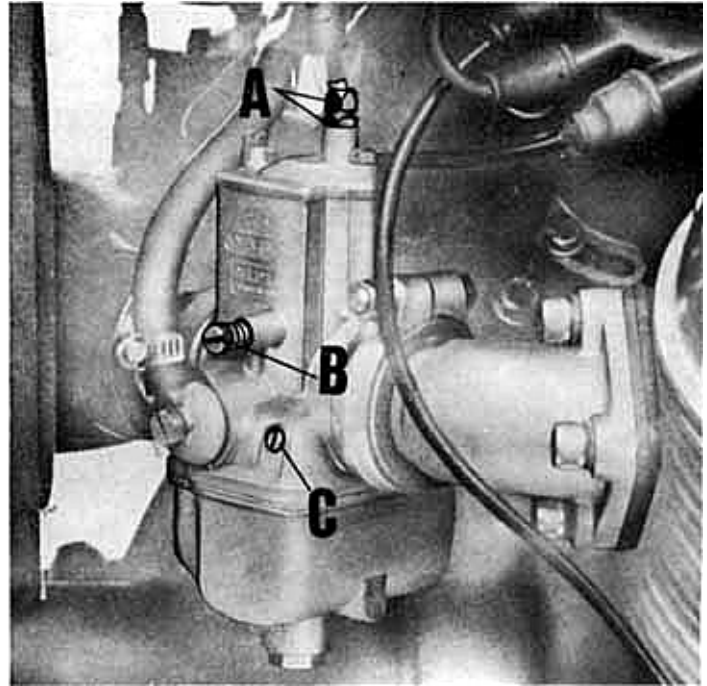

Fig. 17
2. Check synchronization of both gas valves with the filter box and the Inlet sleeve disconnected. Turn the throttle grip keeping at the same time your fingers on the carburetor slides to feel if both valves open by the same amount and simultaneously. Should one valve open before the other, this can be corrected by setting screw «A» (fig. 17) in the position where by turning the throttle both valves open simultaneously.
3. Adjust the idling speed by acting on screw «C» in (fig. 17). Screwing this in reduces the fuel flow and vicaversa increase it. To adjust, tighten and then turn screw out 1 1/2 to 2 turns for the L/H carburetor and 2 to 2 1/2 turns for the R/H carburetor.
With the engine running at about 1000-1200 r.p.m., disconnect one of the plug leads and turn screw «C» (fig. 17) of the opposite carburetor in or out to the position which will give the best idling speed i.e. when the revs are slightly increasing.
4. Disconnect the R/H cylinder plug lead and after starting the engine, ensure that the engine stops after firing 4 or 5 times. If it dies out sooner or later, it is necessary to adjust idling screw. «B» (fig. 17) setting it a the point where the engine will stop after it has fired 4 or 5 times.